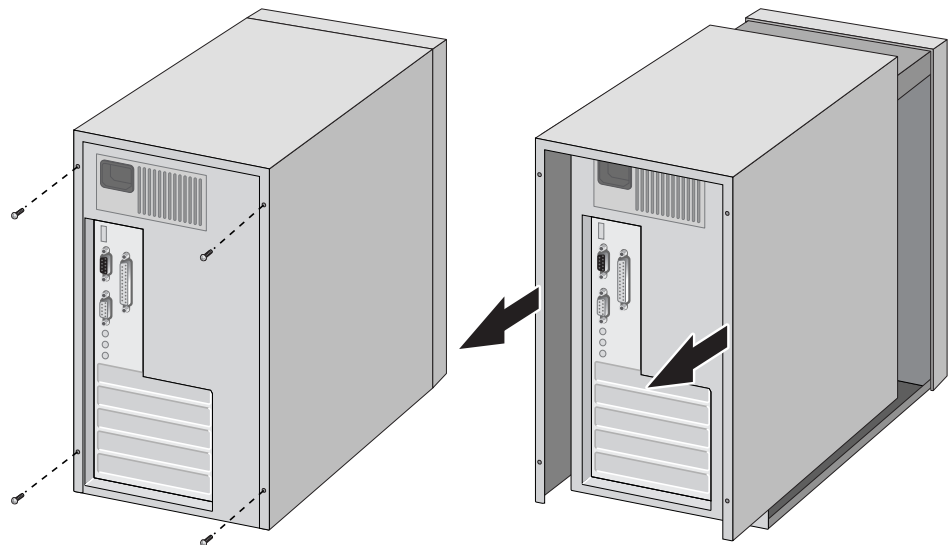

Figure 1. Removing the PC Cover
2. Remove the system cover and select any appropriate empty PCI slot. See Figure 1.